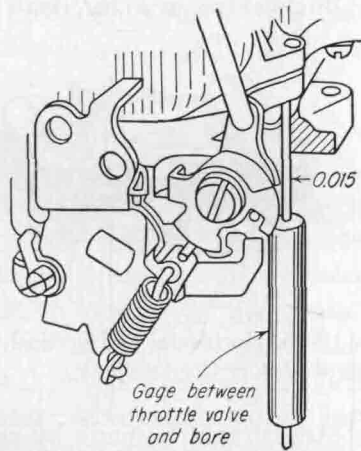

FIG. 10-37. Fast-idle adjustment. (Oldsmobile Division of General Motors Corporation)
- b. Throttle-valve opening adjustment is made by first backing out throttle stop screw and then holding choke valve tightly closed. Then tighten fast-idle adjusting screw against the high step on the fast-idle cam until there is 0.015 inch opening between the throttle valve and primary bore of the carburetor on the side opposite the idle adjusting screws (see Fig. 10-37).